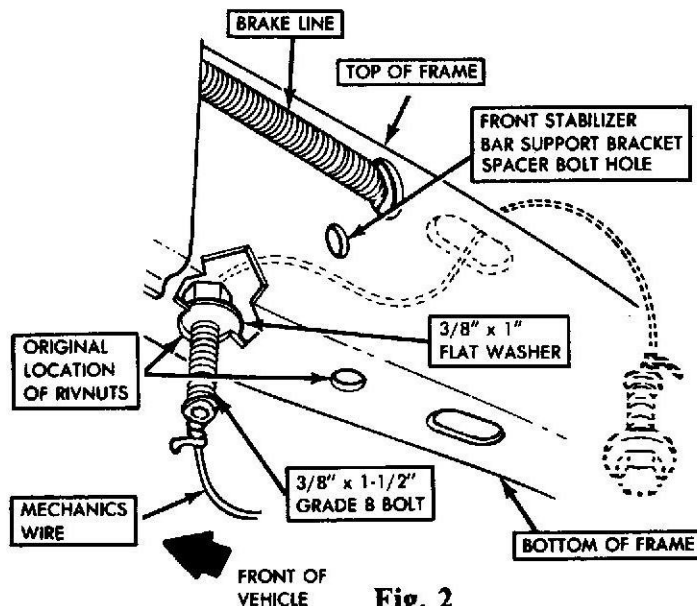

Fig. 2
(3) Run mechanics wire up through hole where Rivnut was located and out through elliptical hole located on top of frame approximately 3" rearward of Rivnut hole (see Fig. 2).
(4) Attach a 3/8" x 1-1/2" SAE grade 8 bolt with a 3/8" x 1" O.D. flat washer to wire and pull shank of bolt through hole (see Fig. 2).